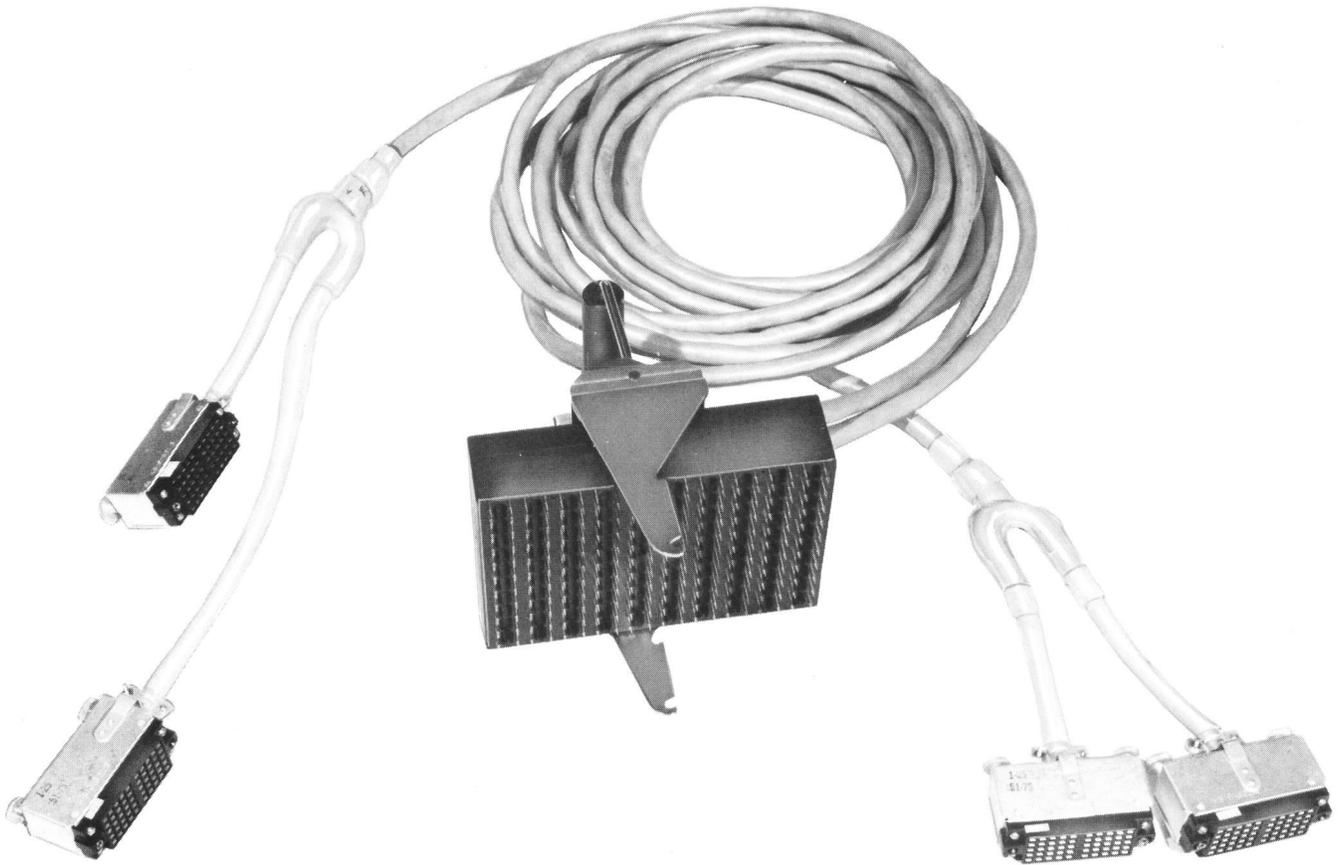

Fig. 6—299A Test Adapter
6.02 The 299A test adapter, Fig. 6, consists of a molded plastic body with a cam-actuated mounting bracket for locking it on the connector. Notches on the mounting bracket provide positions for accessing the connector with or without protectors. The test adapter is used mainly for OSP cable pair verification in conjunction with a variety of test